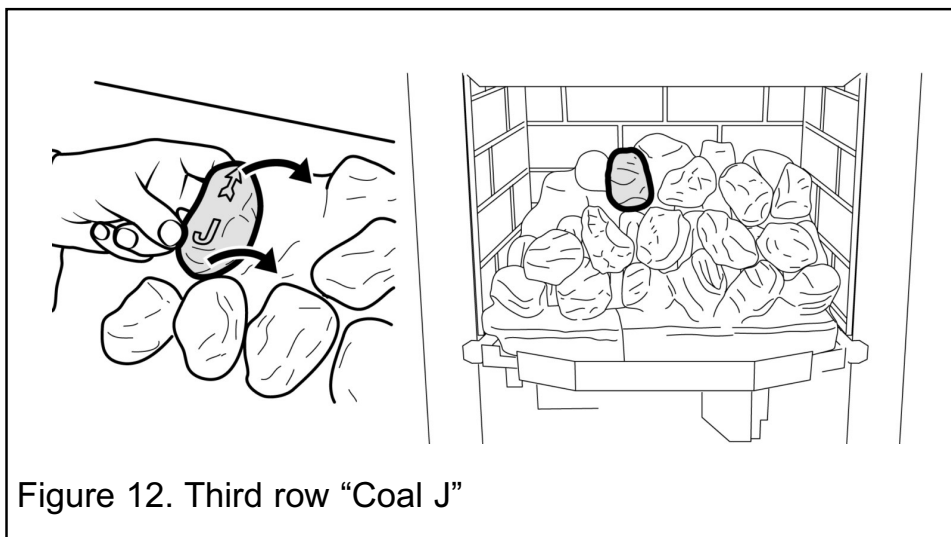

Figure 12. Third row "Coal J"
**14.** Hold coal 'J' upright with the arrow pointing to the top. Locate coal 'J' as shown in figure 12.